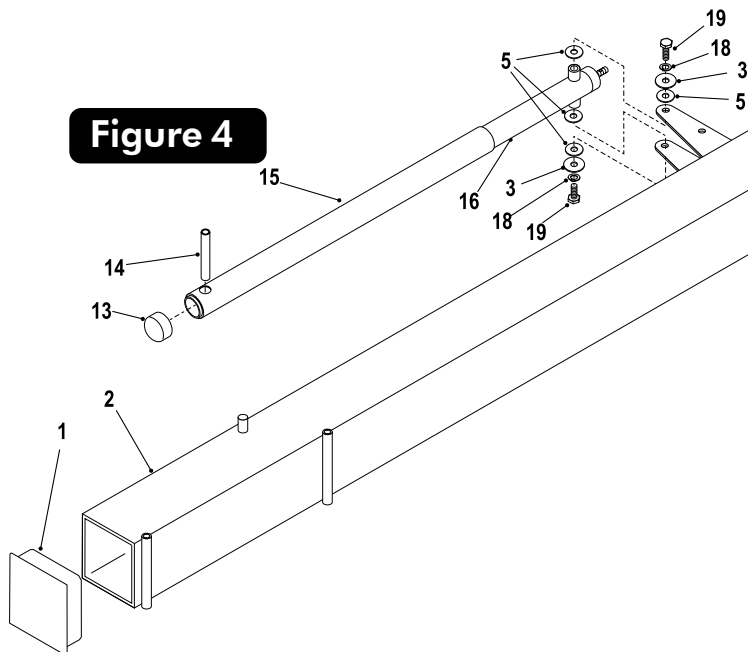

Figure 4
3. Lay Pole (#2) on its side on two padded saw horses. Secure Actuator (#16) to Pole (#2) using one bolt (#19), split lockwasher (#18), washer (#3) and two plastic washers (#5) to thread into each side of Actuator. See Figure 4. Tighten bolts tight.